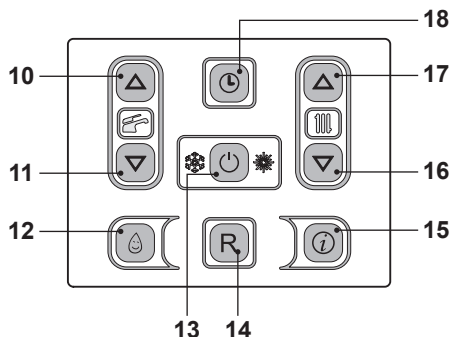
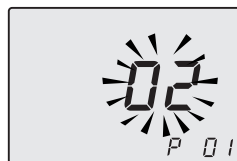

Fig. 10.1
Fig. 10.2
- Enter in "programming mode" by sequentially pressing keys 13 - 16 - 17 together for 10 seconds (Fig. 10.1) until the LCD display indicates the letters **P01**, indicating entry in "parameter 01" (Fig. 10.2).
- By pressing key 13 (Fig. 10.1) confirmation of the inserted value is obtained.